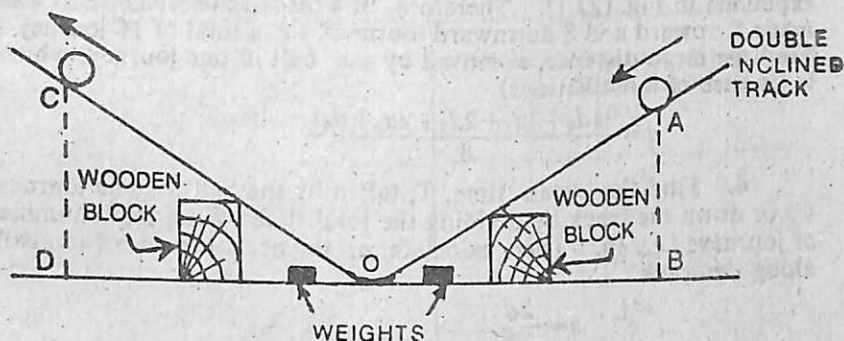

Fig. 22.1.
1. Put the inclined track on a table and keep the weights of 1 kg on the wings on either side of the middle of the track. Insert the wooden blocks under the ends of each track to incline the tracks (Fig. 22.1).
7. To determine the inclination $\sin \theta$, mark two points A and C on the two arms (Fig 22.1). Measure vertical heights AB and CD. Also measure distances of A and C from the centre, where height is zero. Find the two inclinations $\frac{AB}{AO}$ and $\frac{CD}{CO}$ with respect to the table and find their mean. If the table is not horizontal, this mean value gives the correct inclination of each arm of the apparatus with respect to the horizontal plane.